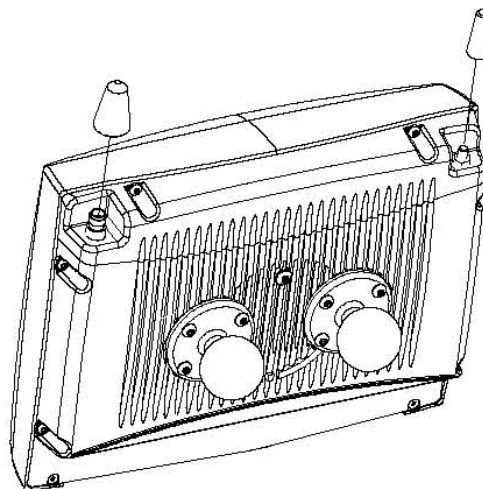

Figure 8 Aerial Outlets
- 1 Mount the aerial on the top of the computer; see Figure 8